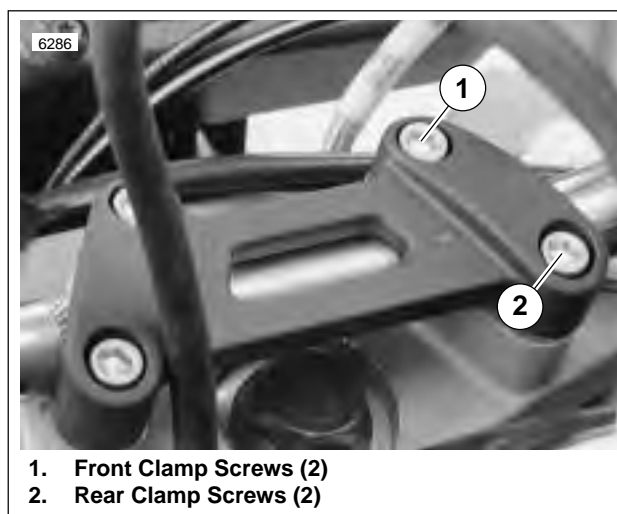

Figure 1-50. Adjusting Handlebars
1. See Figure 1-50. Loosen clamp screws (1, 2).